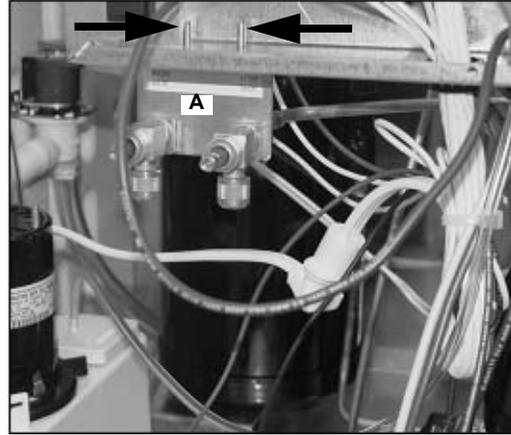

FIGURE 50
54. Use 2 hex head screws to attach the service valve bracket (A) to the electrical control box (FIGURE 50).